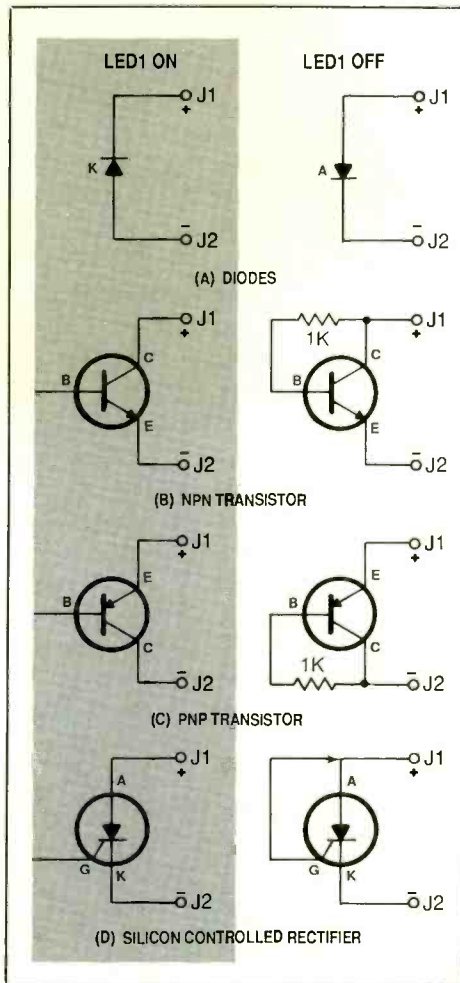

Fig. 5 Connection arrangements to use when testing various types of semiconductor devices.
Using the connection arrangements shown in Fig. 5, the continuity tester handily performs basic good/bad tests on a wide variety of semiconductor devices. If the device being checked fails the test, it has little or no chance of meeting its published specifications. If it passes the test, the device has a very good chance of meeting its specifications.
To check diodes and rectifiers, bridge the device across *J1* and *J2* in both directions, as shown in Fig. 5(A). With cathode *K* connected to *J1* (+) and anode *A* connected to *J2* (-), *LED1* should be on to indicate that the diode is blocking the flow of current. Reversing the device's connections to the jack, the LED should be off, indicating that the diode is conducting.
Figures 5(B) and 5(C) show connections for checking small- and medium-power npn and pnp bipolar transistors. When using the tester to check bipolar transistors, check first with base lead B floating or disconnected. If the transistor is good, the LED should light, indicating that the transistor is off and is not shorted. Connecting a 1,000-ohm resistor from base B to collector C should cause LED1 to turn off, indicating that the transistor has switched on and is amplifying.
Figure 5(D) shows how to check low- and medium-current silicon controlled rectifiers (SCRs). With gate lead G not connected to anode A, LED1 should be on to indicate that the SCR is blocking the flow of current. If the LED is off, try opening and closing *S1* on the continuity tester. With the SCR in the blocking mode, momentarily touch gate lead G to anode lead A; the LED should switch off, indicating that the SCR has switched on and is conducting current as it should.